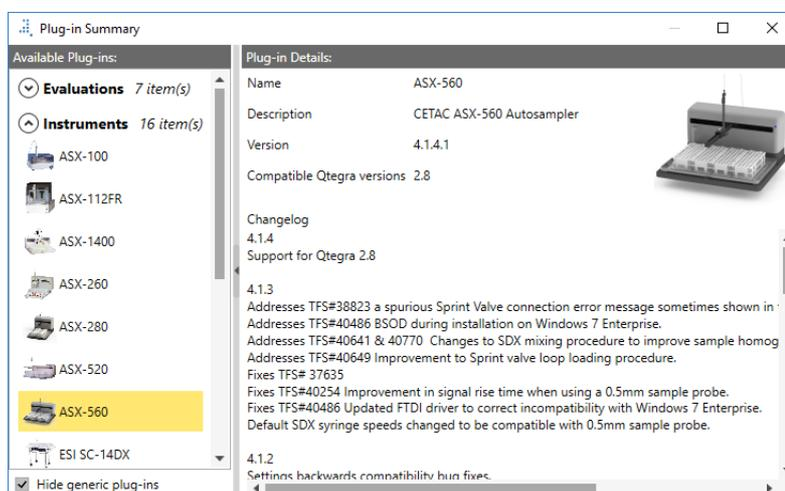

Figure 4-85. plug-in Summary window
1. On the Help page of Qtegra, click **Plug-in summary**. A dialog opens and displays a list of available plug-ins, see Figure 4-85.